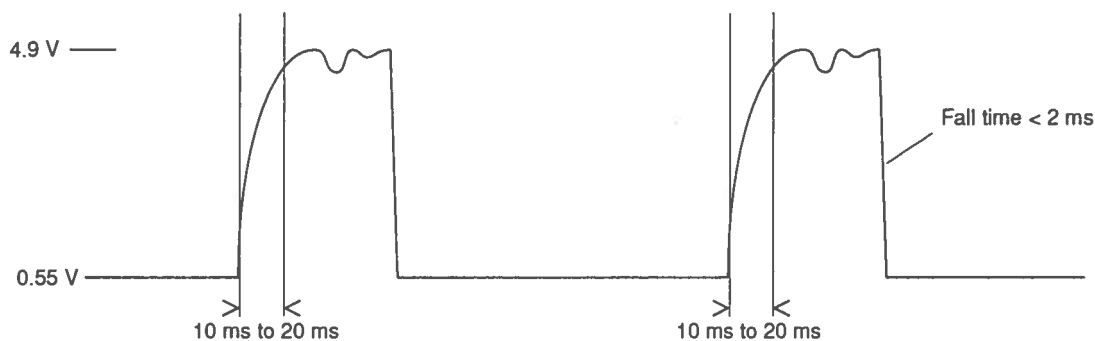

Figure 2 Typical rise and fall of QED input signal with MEL12 connected as in Figure 1.
- 1 Explain that the symbol is normally drawn with this orientation. In circuit diagrams, the 0 V rail would be shown as a horizontal line along the bottom of the circuit diagram; the positive supply rail would be shown as a horizontal line along the top of the diagram. Relate the overlay to the conventional circuit diagram (Fig. 2).
Figure 2 Circuit diagram for showing how the MOSFET is controlled by the p.d. between gate and source. The microammeter should have a resolution of $0.1 \mu\text{A}$.
Actual time delays are less than half the rise time delays, being the time for the QED input signal to rise from 0.55 V to 2.8 V. Ignoring the fall time delays, QED event times have, with MEL12, a random uncertainty of between 5 ms and 10 ms, applied systematically (Fig. 2). This arrangement is not satisfactory.